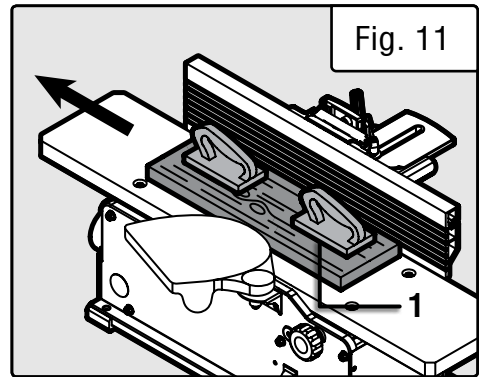

Fig. 11
3. As your trailing hand passes over the cutterhead, remove your leading hand and place behind your trailing hand and repeat until the entire length of the workpiece has been cut. Use a push block (Fig. 11 - 1) to hold and feed the workpiece when jointing wood that is narrower than 3 inches or thinner than 3 inches.